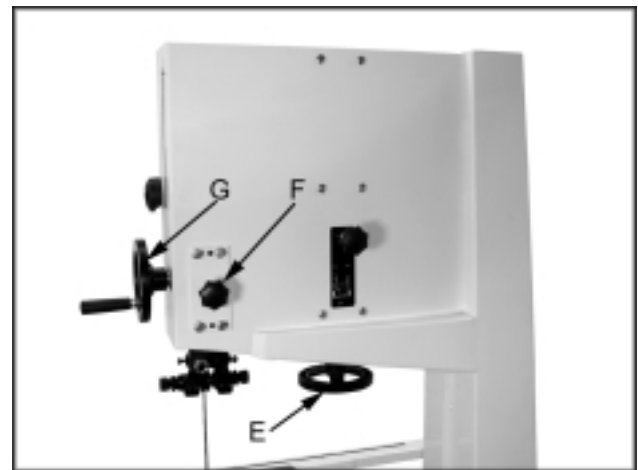

Fig. 17
2. Lower the upper blade guide assembly about half way by loosening the lock knob (F, Fig. 17) and turning the hand wheel (G, Fig. 17).
5. Loosen blade tension by turning blade tension hand wheel (E, Fig. 17) clockwise until it stops.